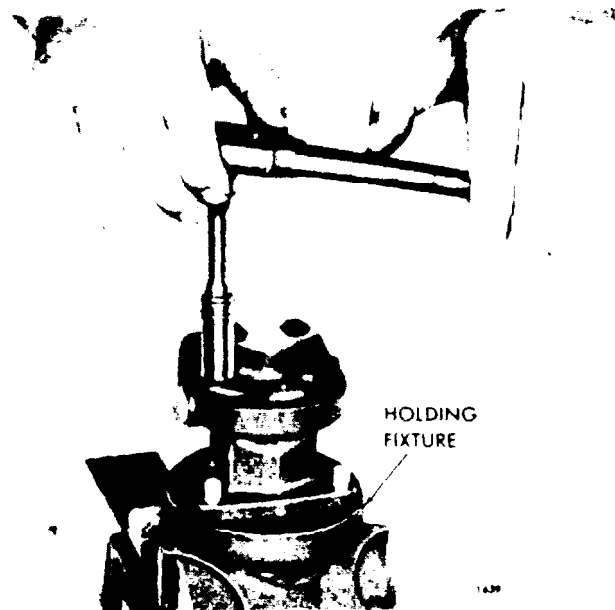

Figure 11C-53. Removing Pump Cover
7. If the oil seals need replacing, remove them with oil seal remover J 1508-13 (Figure 11C-54 on page 11C-31). Clamp the pump body in a bench vise and tap the end of the tool with a hammer to remove the outer and inner seals.